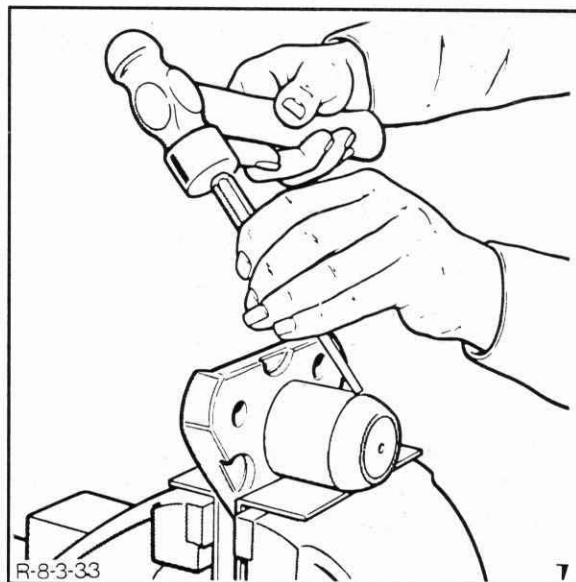

Figure 7-98
2. Using a suitable drift, drive the cone half of the swivel bearing off each pin, Figure 7-98.